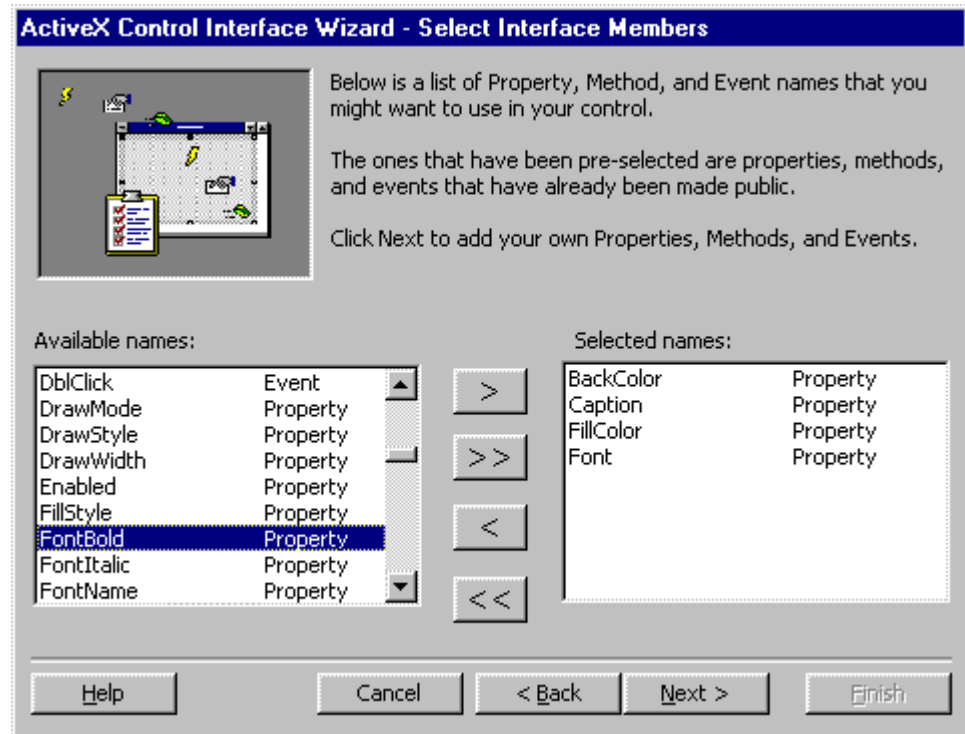

Figure 11. Select new properties from the list of built-in properties. (Caption was there already – you choose the rest).
3. **Select Interface Members:** On the next page, select the BackColor, FillColor, and Font properties from the list of available properties. Figure 11 shows the wizard after selecting all the necessary properties from the list.